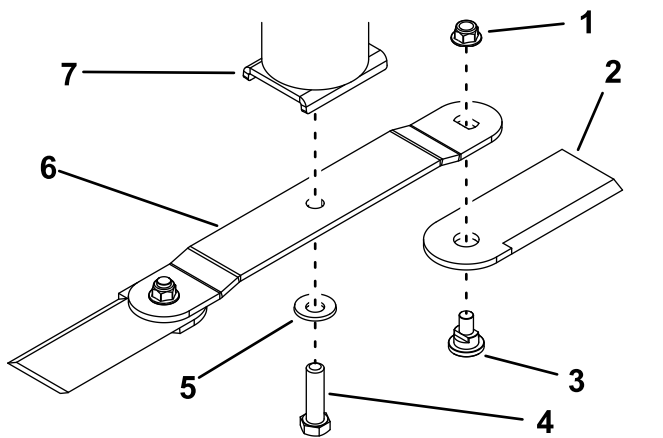

Figure 37
2. Remove the blade bolt, the curved washer, and blade from the blade mount on the bottom of the spindle-cup assembly (Figure 37).
If the blade is not balanced, file some metal off the back side of the blade (opposite of the cutting edge) only (Figure 37).
- Attach the blade to the spindle cup assembly using the blade bolt and curved washer (Figure 37).
- To install only the flail blades, secure the flails to the end of the blade using the flail bolt and a new nut for each flail (Figure 37). Torque the nut to 103 to 127 N·m (76 to 94 ft-lb).